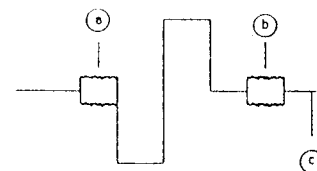

Figure 6-2
- 4) Adjust VR502 so that the part ⑥ and part ⑦ (Blanking level) are on the same level. (See Figure 6-2)
- 5) Adjust L502 (DL matching coil) so that part ⑥ and part ⑦ (Blanking level) are on the same level.